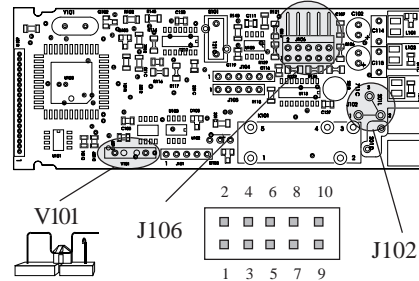

Fig. 12
- 2) Set the dip switch V101 in open condition (see fig. 12).